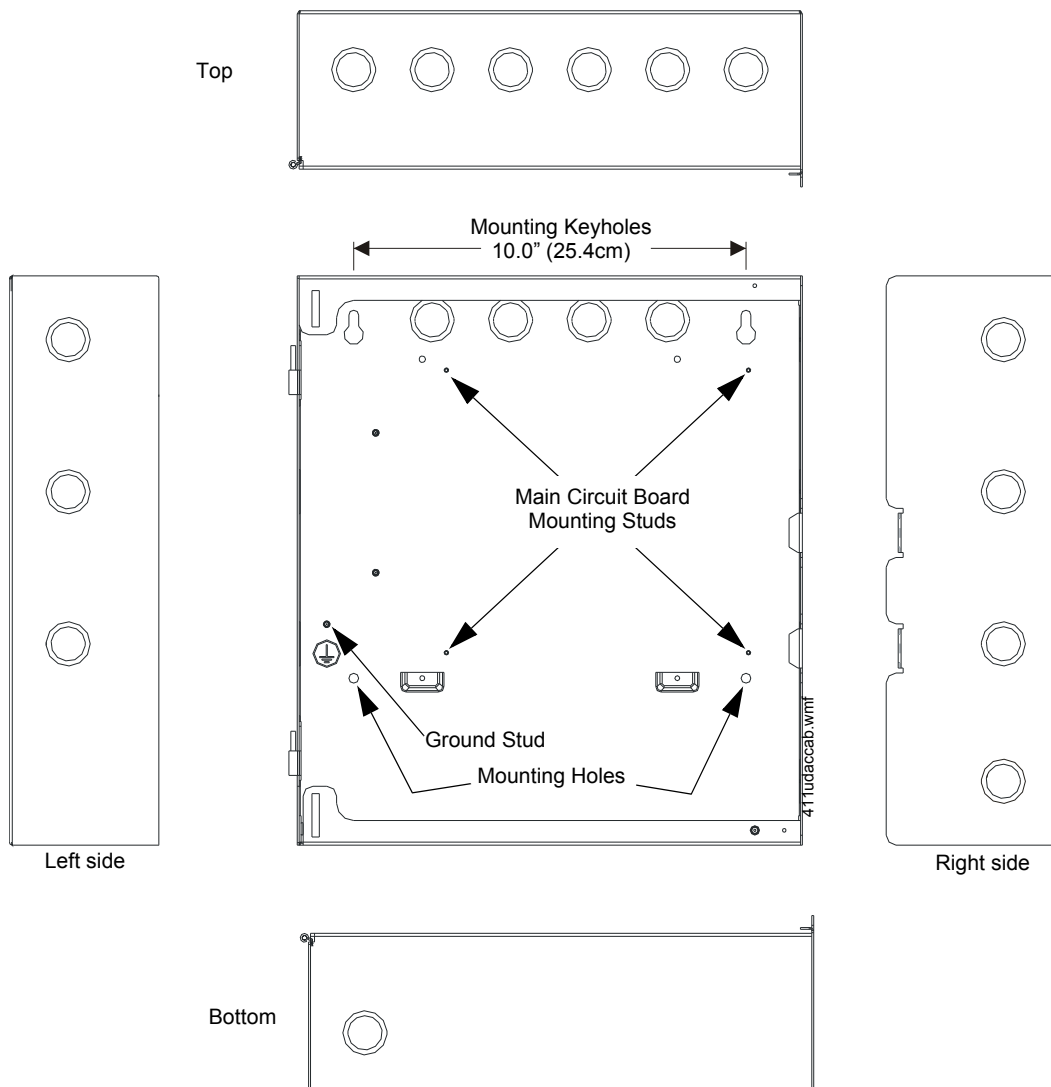

Figure 2.1 Cabinet Dimensions and Knockout Locations
1. Mark and predrill holes for the top two keyhole mounting bolts using the dimensions shown in Figure 2.1.
1. When the location is clean and free of construction dust or other contaminants, install the main PC board by installing the four supplied standoffs on the four main circuit board mounting studs located in the backbox. Refer to Figure 2.1 for locations.